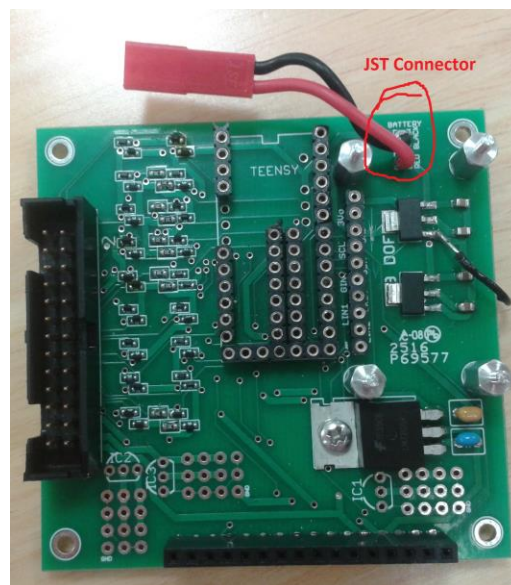

Figure 3. Battery JST Connector
- Protection Diodes: Part of your board is dedicated to protection diodes. The diodes protect sudden large voltages from destroying the Teensy. They are arranged as shown in Figure 3. These diodes have been soldered for you.